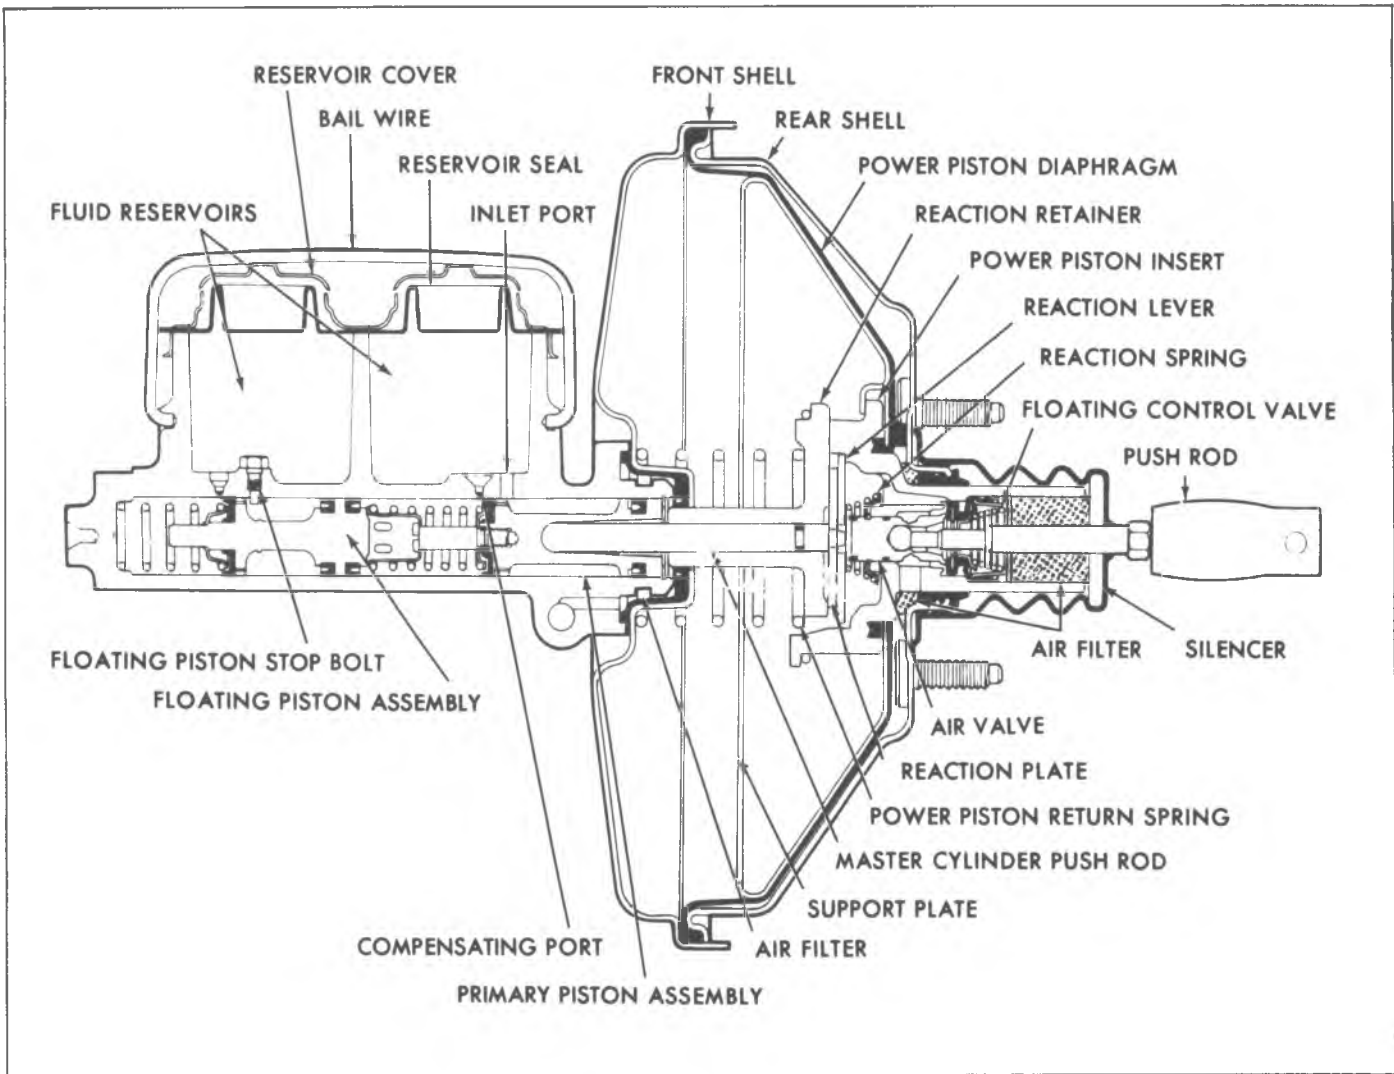

Fig. 82--Typical Power Unit - Released
**RELEASED (Figs. 82 and 83)**